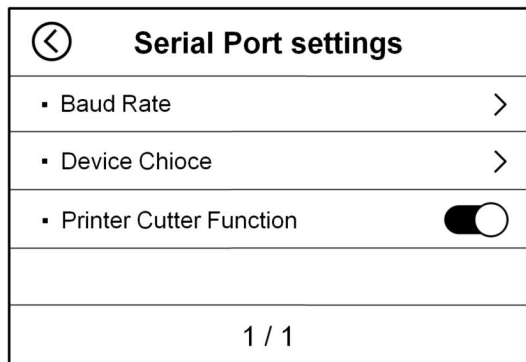
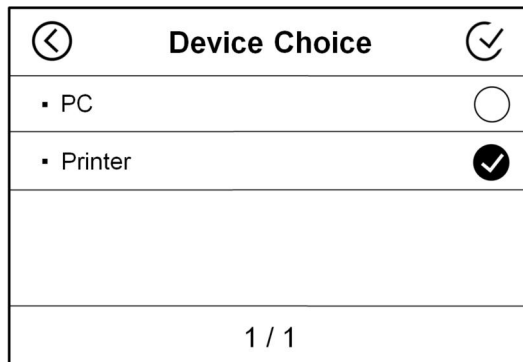

Figure 72
Figure 73
2) Touch the **“Serial Port”** key to enter the baud rate setting interface, as shown in Figure 72 below. First touch the second item **“Device Choice”** to enter the peripheral selection interface. In this interface, type “✔” after the second item "Printer", shown in Figure 73, and then touch the “✔” key in the upper right corner to save, and it will automatically transfer to the interface shown in Figure 72.